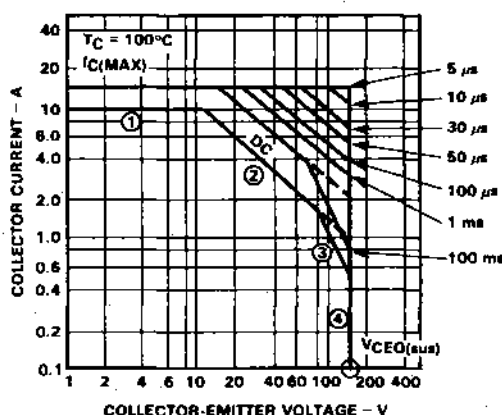

Fig. 5-1. Typical Safe Area
In a typical safe area diagram, *Figure 5-1*, collector current I_C is shown as a function of collector-to-emitter voltage V_{CE} . Each curve is labeled with the duration of the on pulse – from the worst-case dc condition to a minimum duration of $5 \mu s$ – at $T_C = 100^\circ C$ and a 1% duty cycle. The four factors limiting the dc forward-biased SOA of a particular power transistor are the collector current (1), thermal limitations (2), second breakdown limitation (3), and $V_{CE(sus)}$ (4).
Power dissipation at high voltages is limited by second breakdown, boundary (3) in *Figure 5-1*. Under second breakdown conditions, the output impedance changes almost instantaneously from a large value to a small limiting value. This condition is distinguished from normal transistor operation in that once it occurs, the base no longer controls normal collector characteristics. Physically, second breakdown is caused by localized current concentrations resulting in uncontrollable generation and multiplication of carriers causing a sudden reduction of collector impedance. As the duration of this phenomenon exceeds the thermal time constant of the area, the transistor is irreversibly damaged. The forward-bias second breakdown current I_{SB} is defined as the current at the onset of second breakdown. To increase the I_{SB} rating of a power device, wide base-width and uniform base-dopant concentration are key factors. Wide base width improves second breakdown capability in three ways. First, it reduces intensity of the transverse electric field; second, a wide base promotes fanning out of the current before it reaches the collector-base junction, thus tending to eliminate generation of hot spots; third, it also acts to thermally isolate the emitter-base junction from the hot spots generated in the collector base region, thus tending to prevent thermal runaway. Uniform base doping such as obtained by the Fairchild multiple epitaxial process, utilizing epitaxial base material, improves second breakdown capability by reducing the transverse electric field in the base.
So far, discussion of forward-biased safe area has been limited to dc operation. Another forward-bias operating mode, namely, pulsed operation, must be considered. Refer to the typical safe area diagram in *Figure 5-1*. Very high peak power dissipation is possible during pulsed operation. For example, peak power of 360 W at 60 V is permissible for a pulse width of 0.1 ms, compared with maximum power of only about 115 W at 60 V for dc conditions. This high peak power capability arises from the inherent thermal capacitance of the device which enables it to absorb short bursts of energy without exceeding the maximum junction temperature or going into second breakdown. If the time between power pulses is relatively long (low duty cycle), most of the stored thermal energy is dissipated before the next power pulse arrives; thus, temperature build-up in the device is prevented. As indicated in *Figure 5-1*, allowable peak power increases as pulse width decreases. This follows from the fact that total energy absorbed is equal to the product of power and time. If the time duration of the pulse decreases, peak power can increase without increasing total energy absorbed.